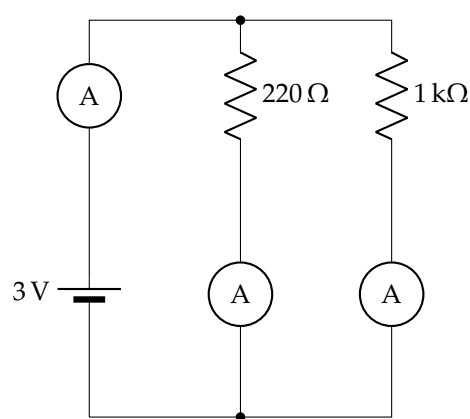

Figure 8: The circuit used to study a current divider.
1. Assemble the circuit shown in Fig. 8.